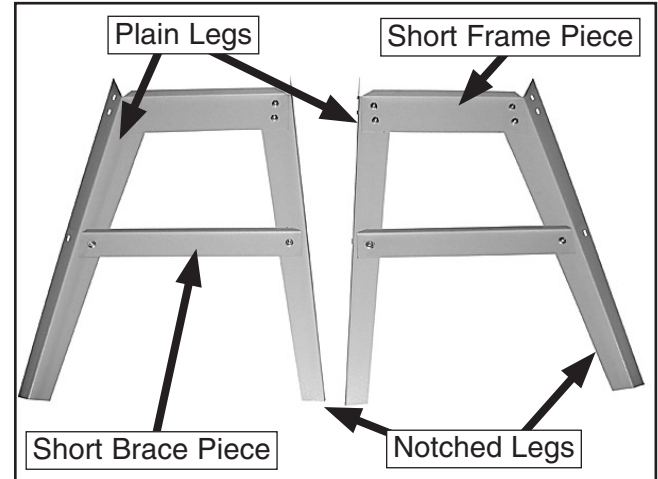

Figure 6. Stand halves.
4. Repeat **Steps 1–3** for the other side of the stand. The finished halves of the stand should look like those shown in **Figure 6**.